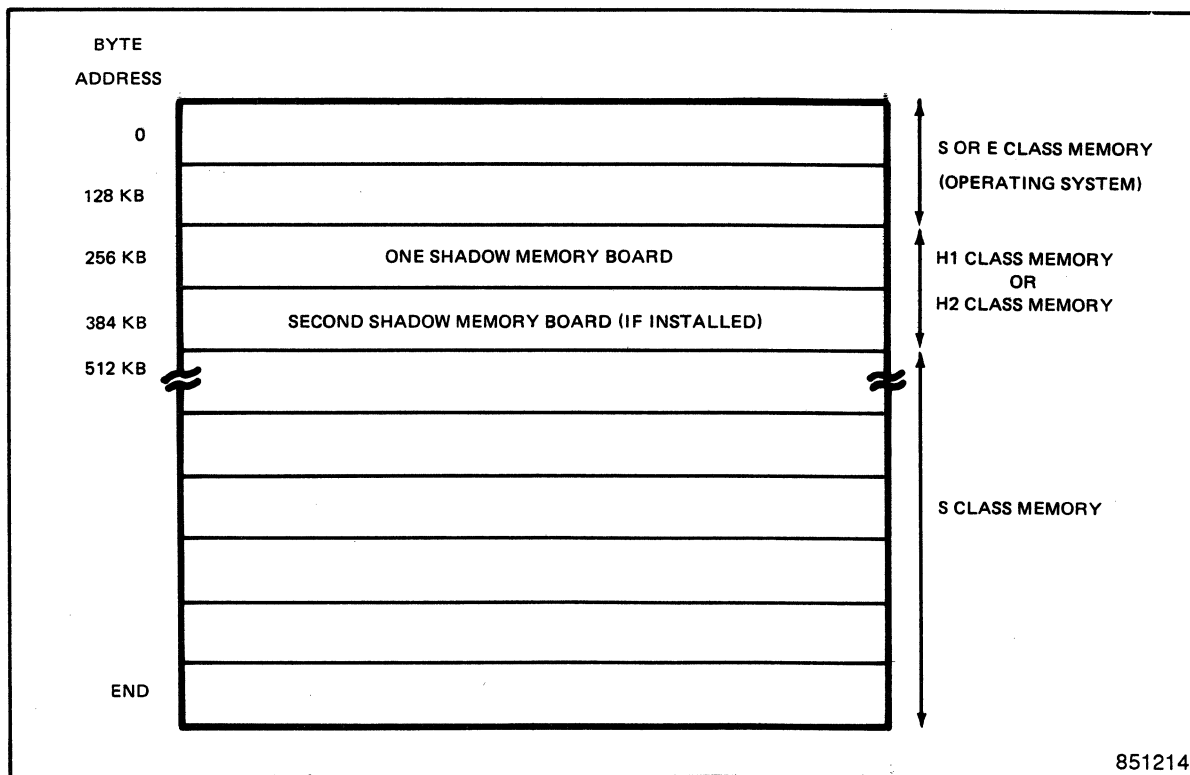

Figure 10-1. Shadow Memory Configuration with a Single Processor and a Single Region of Shadow Memory
- a single processor (IPU or CPU) with a single region of shadow memory. See Figure 10-1.
The contents of the specified memory disc are saved to a system file named @SYSTEM(SYSTEM)DM00nn. See Figure 10-1.